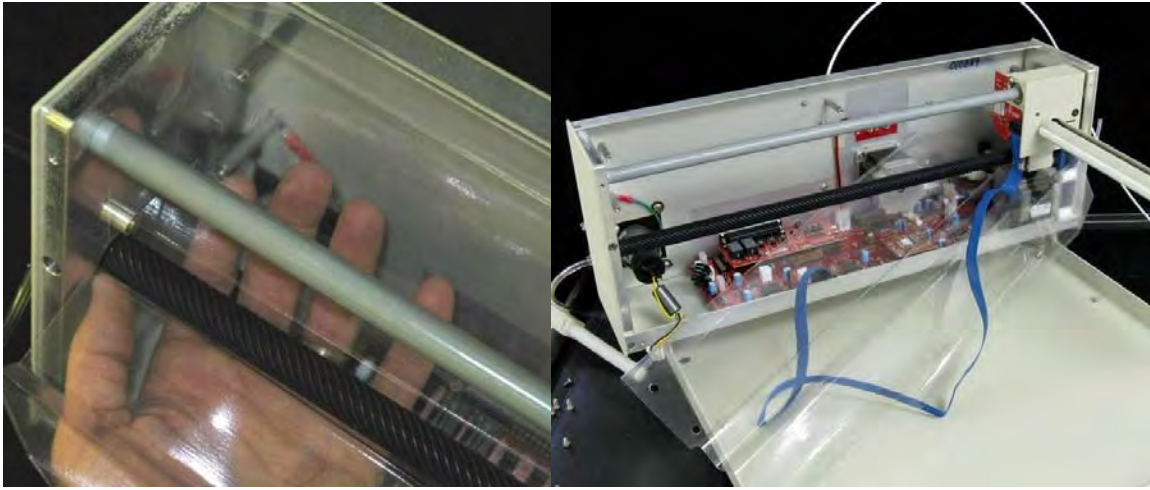

Figure 1-15. View of splashguard removal.
12. Remove the splashguard by pulling it out from one side. It may be necessary to reach under the guard and remove it from the support stand offs. See Figure 1-15.